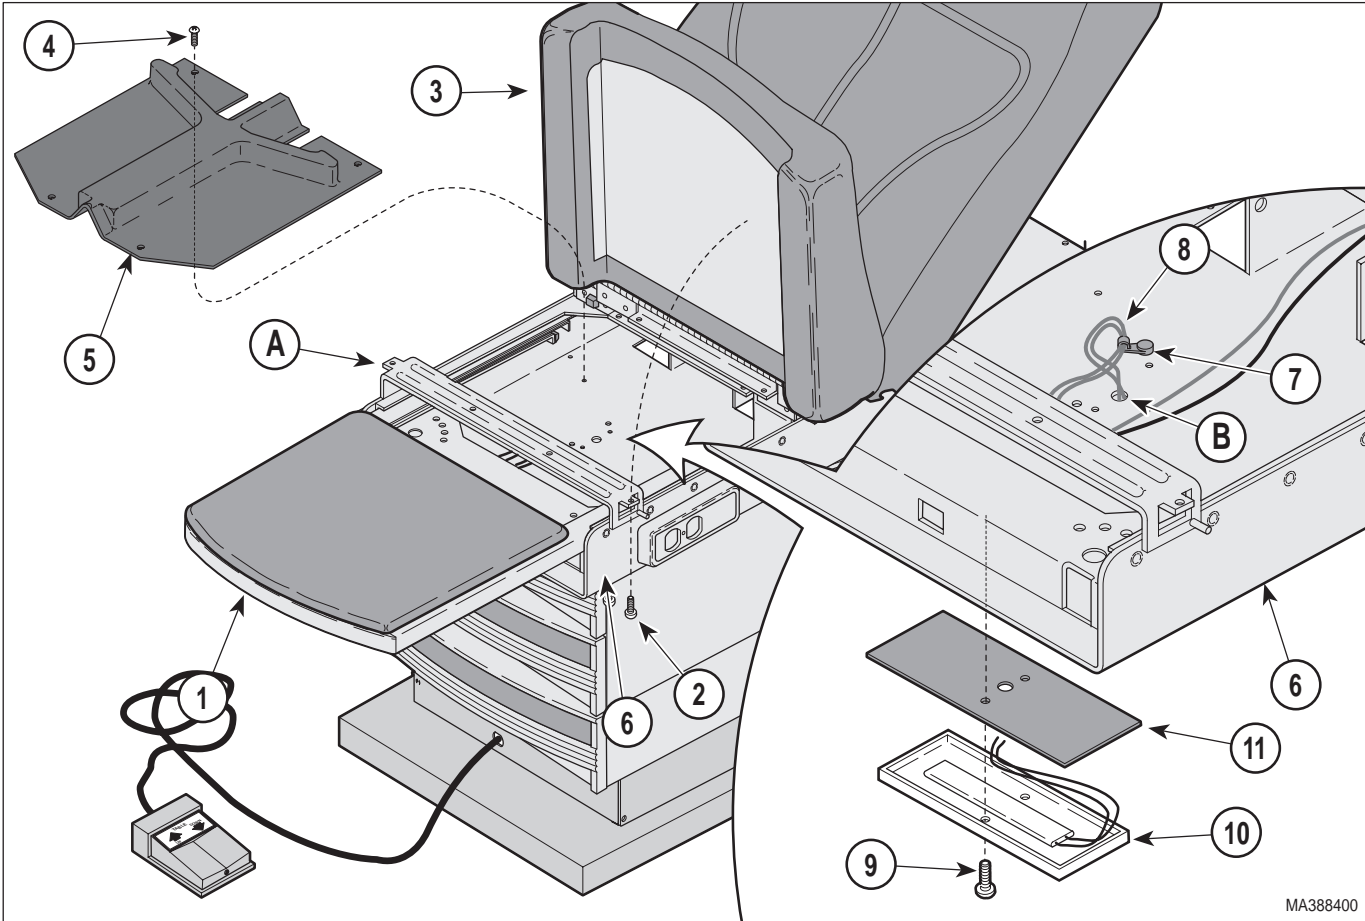

Figure 4-6. Heater Plate Removal / Installation
- (1) Unplug table power cord from wall outlet.
- (2) Remove two drawers from foot end of table.
- (3) Remove the heater ON / OFF switch (Refer to para 4.4).
- (4) Pull the footrest section (1, Figure 4-6) out as far as it will go.
- (1) Route the heater plate wires (8, Figure 4-6) thru the wire hole (B) in the upper wrap weldment (6).
When installing the electrical leads (11, Figure 4-6) on the duplex receptacle (10) insure the insulation on the leads covers sufficiently to prevent electrical shorts to the cabinet. The black leads connect to the side of the receptacle with the black screws and the white leads connect to the side with the silver screws. Insure the ground (green) lead is connected to the ground terminal on the receptacle and to the table. Failure to do so could result in personal injury